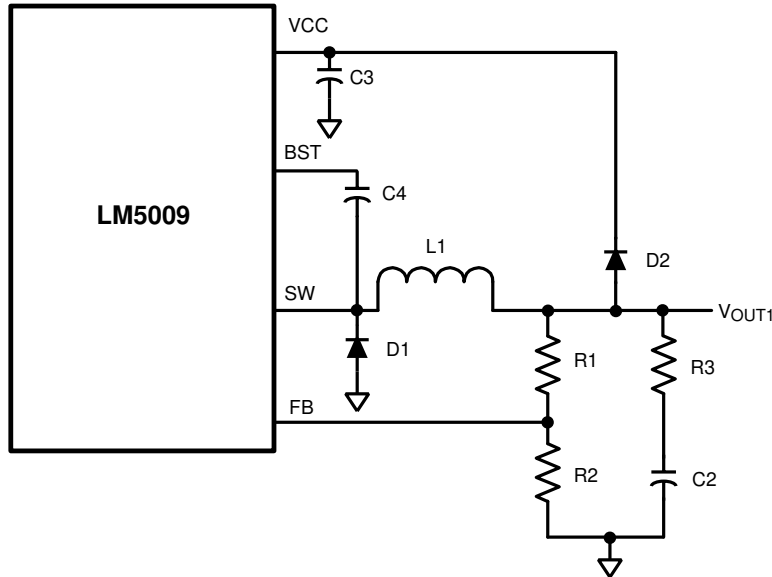

图 7-2. Self-Biased Configuration
In applications involving a high value for V_{IN} , where power dissipation in the V_{CC} regulator is a concern, an auxiliary voltage can be diode connected to the VCC pin. Setting the voltage between 8 V and 14 V shuts off the internal regulator, reducing internal power dissipation, as shown in 图 7-2. The current required into the VCC pin is illustrated in the 节 6.6 section.
1. **ESR and R3:** A low ESR for C2 is generally desirable to minimize power losses and heating within the capacitor. However, this regulator requires a minimum amount of ripple voltage at the feedback input for proper loop operation. For the LM5009, the minimum ripple required at pin 5 is 25 mV peak-to-peak, requiring a minimum ripple at V_{OUT1} of 100 mV. The minimum ESR required at V_{OUT1} is $3\ \Omega$ because the minimum ripple current (at minimum V_{IN}) is 33 mA peak-to-peak. R3 is inserted as illustrated in the Figure 7.2 section because quality capacitors for SMPS applications have considerably less ESR. The value of R3, along with the ESR of C2, must result in at least a 25-mV peak-to-peak ripple at pin 5. Generally, R3 is $0.5\ \Omega$ to $5.0\ \Omega$.